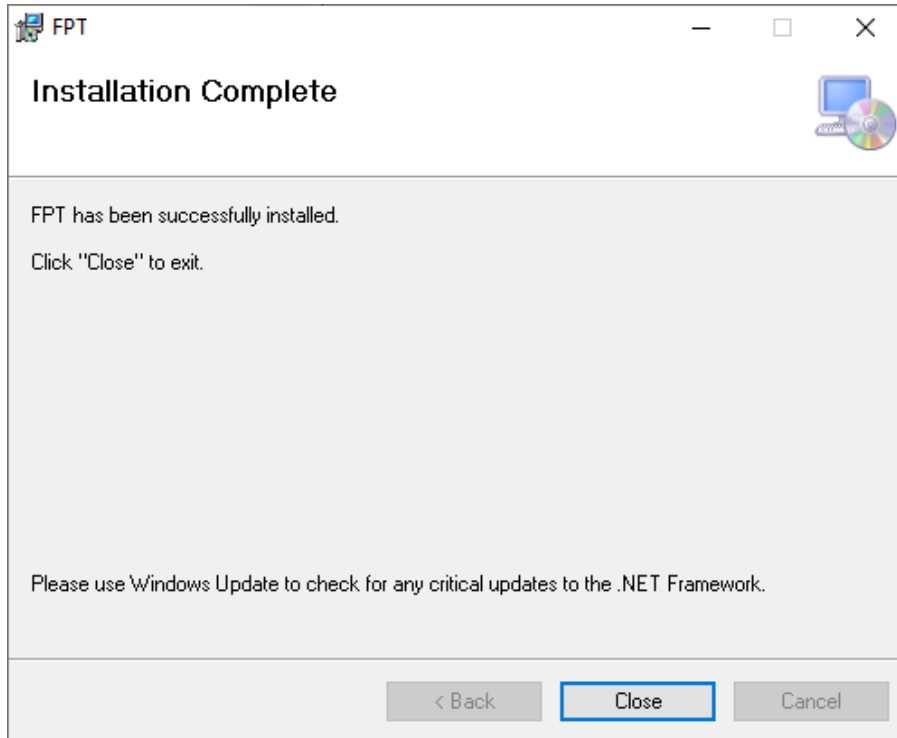

Figure 30 - FPT Installer
12. Wait for the installation to finish (Figure 30) then select **Close**.